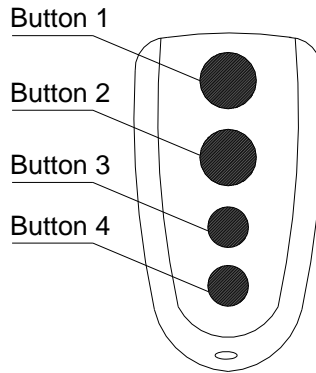

Fig.12 Remote transmitter
- The remote control works in a single channel mode. It has four buttons. See Fig.12 Remote transmitter. The function of button 1, button 2, button3 and button 4 are the same. With each press